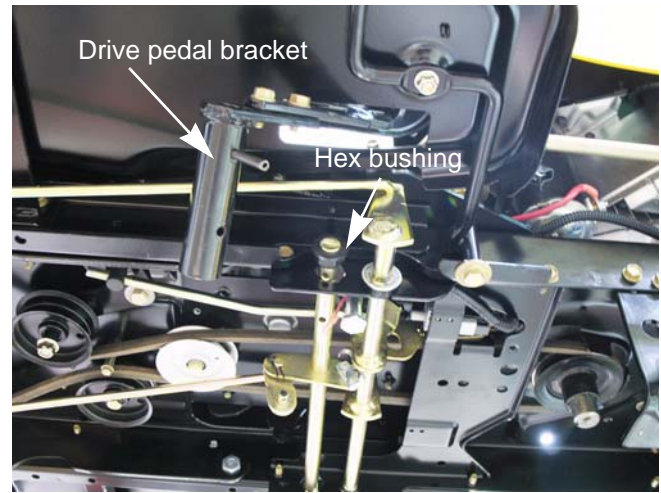

Figure 5A.16
7. Remove the hex bushing. See Figure 5A.16.